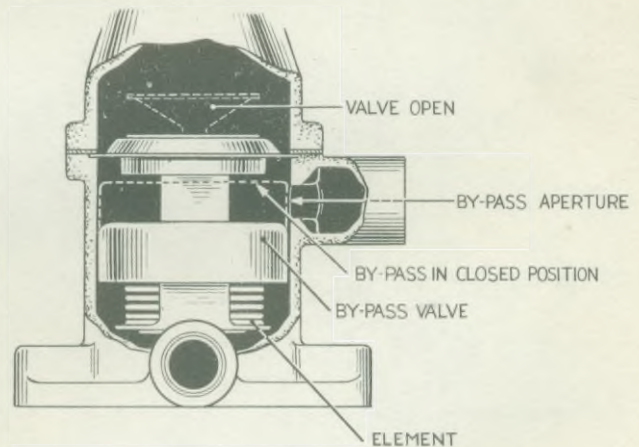

Fig. 8. Sectional view of thermostat
4. Drill, countersink, tap, turn undercut and circlip groove (if necessary). For dimensions and details see Fig. 8.
Description. (Fig. 8).